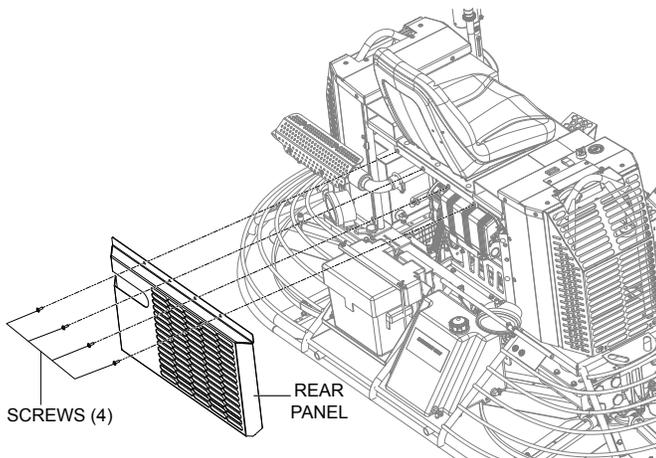

Figure 25. Rear Panel Removal
1. Remove and retain the 4 screws that secure the rear panel to the trowel frame (Figure 25).
2. Remove and set aside the rear panel (Figure 25).